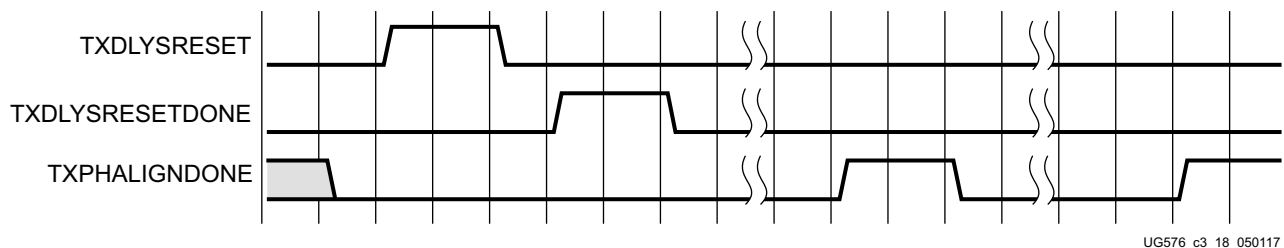

Figure 3-18: TX Buffer Bypass—Single-Lane Auto Mode
Figure 3-18 shows the required steps to perform the auto TX phase alignment and use the TX delay alignment to adjust TXUSRCLK to compensate for temperature and voltage variations.
Notes relevant to Figure 3-18:
1. The sequence of events in Figure 3-18 is not drawn to scale.
5. An assertion/deassertion of GTTXRESET is required if TXPHALIGNDONE does not follow the sequence shown in Figure 3-18.